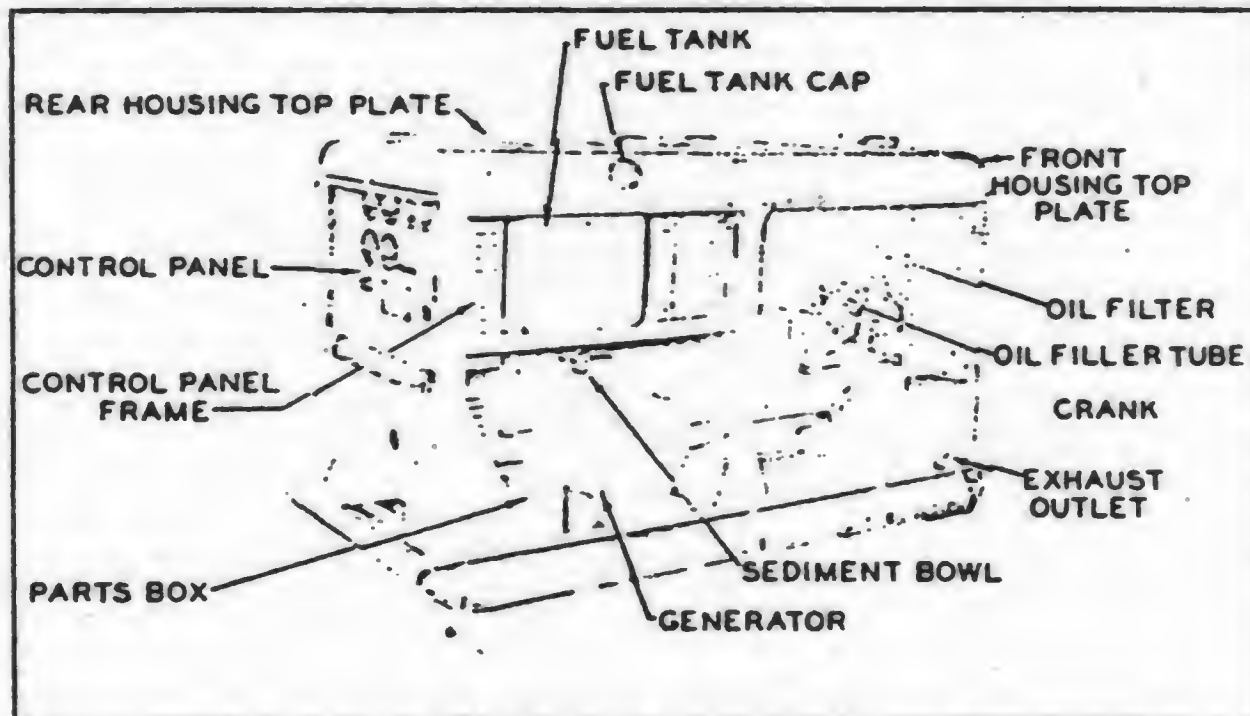

FIG. 2 POWER UNIT JWC4-10S-3 (LEFT SIDE)
*a. Purpose.*—The generator supplies the alternating-current power output of the power unit. This generator assembly really consists of two individual generators, the alternator and the exciter, (Fig. 2).